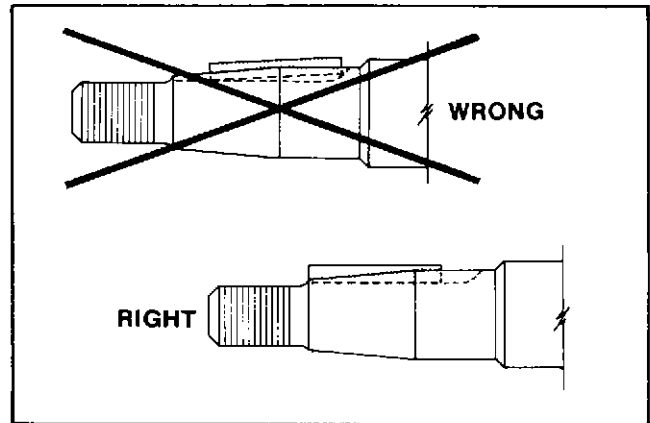

Figure 8-17. Right and Wrong Way to Install Flywheel Key
the key rides up on the rounded surface at the end of the keyway, as shown in Figure 8-17, it will act as a wedge and crack the flywheel hub.
2. Position key properly in keyway as shown in Figure 8-17 and carefully guide key slot in flywheel hub over the key, to avoid pushing the key inward.